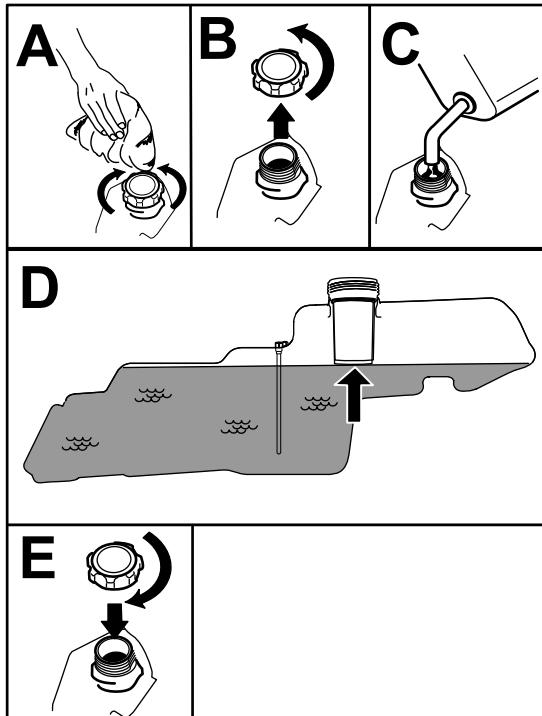

Figure 8
5. Fill the fuel tank to the bottom of the filler neck (Figure 8). Do not fill the fuel tank completely full